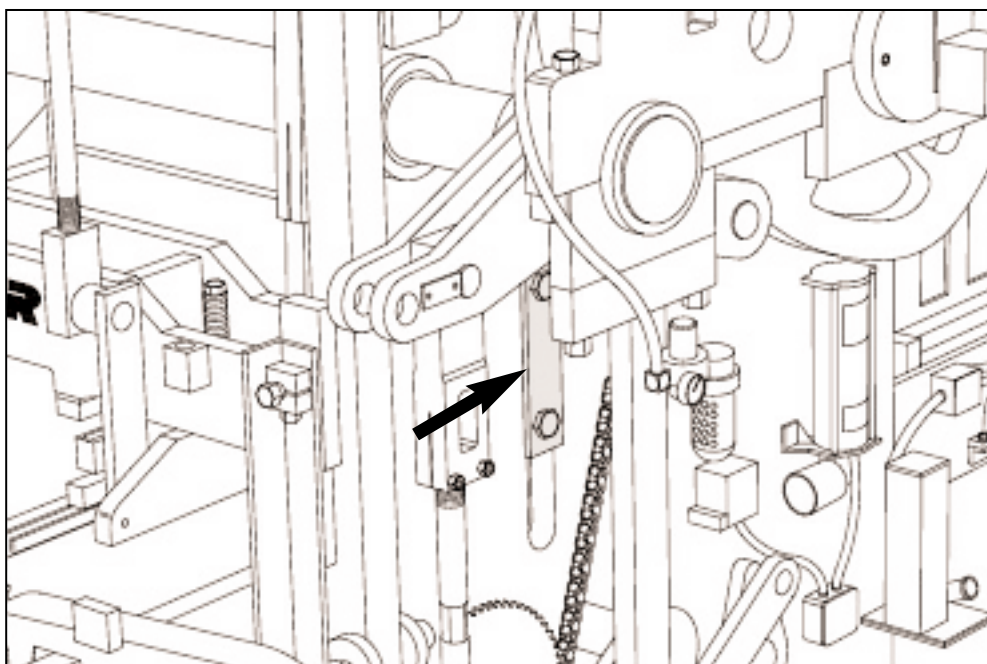

Figure 4.36 LOOSEN "T" CLAMPS ON BOTH SIDES.
a. Loosen the "T" clamps on each side of machine that secures machine side plate to mold throat plate (figure 4.36).